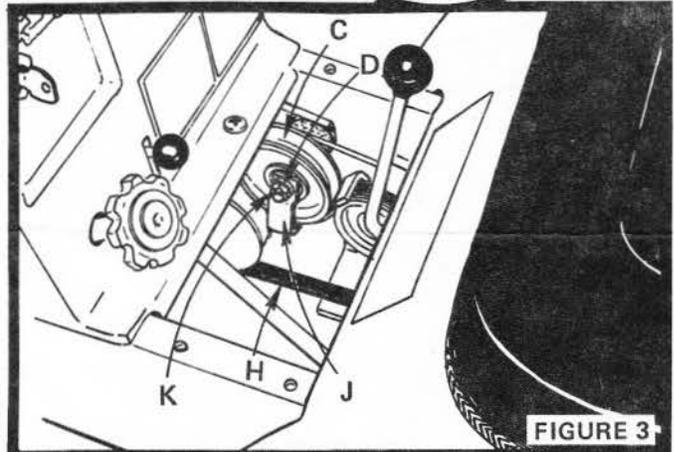

FIGURE 3
2. Refer to Fig. 3. Reassemble Flat Idler (C) with Hub to R.H. side of tractor. Place Belt (H) on Flat Idler (C). Install Washer (D) and Belt Guide (J). Secure with new Hex Nut (K) (shipped with kit). NOTE: ASSEMBLE NEW BELT GUIDE (J) IN A STRAIGHT UP AND DOWN POSITION (FIG. 3).